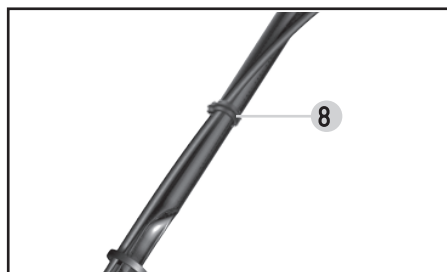

Fig. 5
- 6 Hook the cable through the cable strain relief hook to help prevent it from coming loose or disconnected while you are mowing. (Fig. 5)